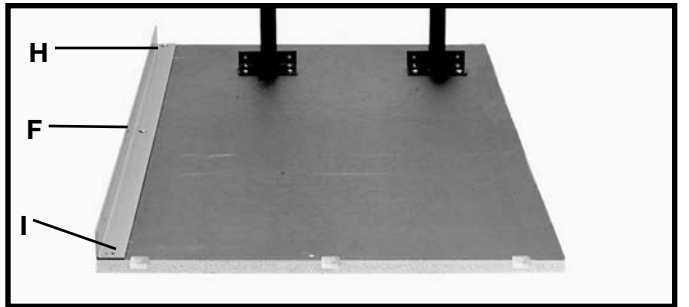
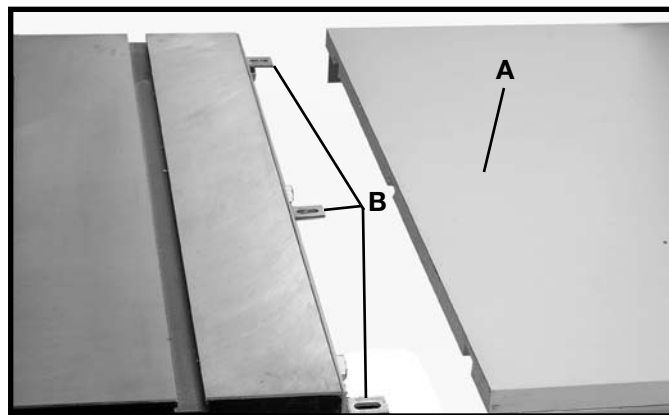
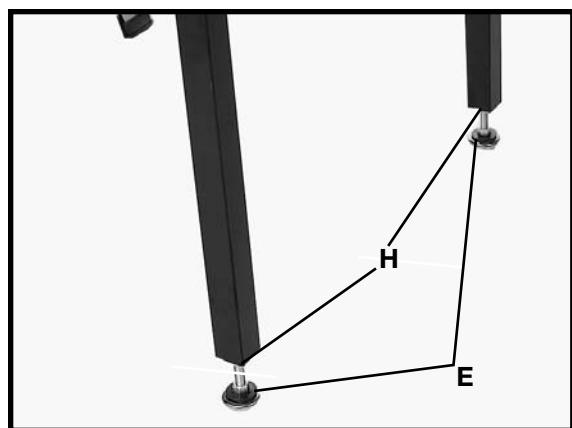
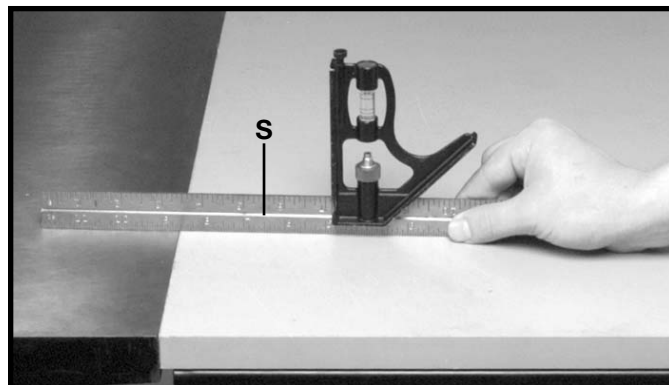

Fig. 49
Fig. 53
Fig. 58
Fig. 57
5. Fasten the front table support (F) Fig. 49 to the bottom of the table using two #8 x 3/4" long self tapping wood screws (H) and (I) supplied. **NOTE:** The slots closer to the angles in the support (F) should be against the table and the vertical flange of the table support should be flush with the front edge of the table. **NOTE:** Screws (H) and (I) Fig. 49 should not be completely tightened to the table board at this time. **NOTE:** Make certain the end of the table support does not extend out past the table. **NOTE:** Screw (I) must be removed and reinstalled when table is mounted to the saw.
1. Remove screw (I) Fig. 49 (D Fig. 54) before placing table on brackets. Position table board (A) Fig. 53 on three angle brackets (B).
5. Using a straight edge (S) Fig. 57, make certain the surface of the Unifence table is level with the saw table by adjusting the height of the two leveling screws (E) Fig. 58 at the base of the table legs, and adjusting the height of angle brackets (B) Fig. 53. Position hex nuts (H) Fig. 58, against the bottom of the table legs to hold the leveling screws in position and tighten. **IMPORTANT:** Use a level, side to side and front to back, to make sure the Unifence table is level with the saw table.